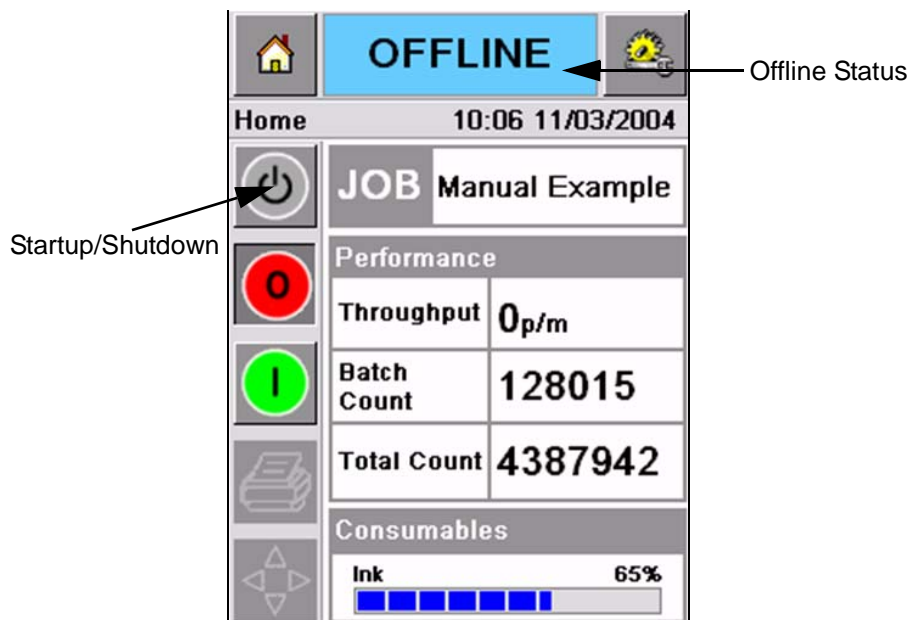

Figure 4-5: Home Page - Offline
- The *Offline* status appears in the status window of the CLARiTY® *Home Page* (refer to Figure 4-5).
- The *Stop* and *Run* buttons become active (Figure 4-5).